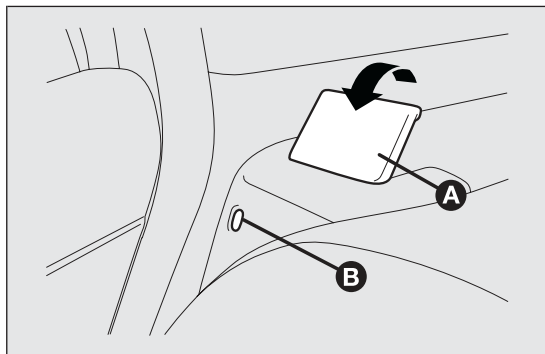

fig. 91
- ☐ lift lever A fig. 91 retaining the backrest and fold the latter forwards. When you lift the lever, you will see a red band B.